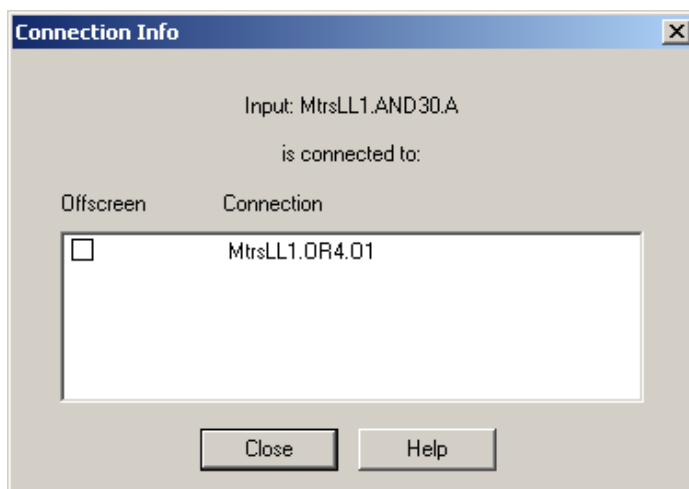

Figure 4-20 Connection Info dialog
2. Right-click a ladder logic element input or output and, from the pop-up menu, select **Show Connections**. The Connection Info dialog displays a list of inputs and outputs showing the loop/block/input or output connections. See Figure 4-20.